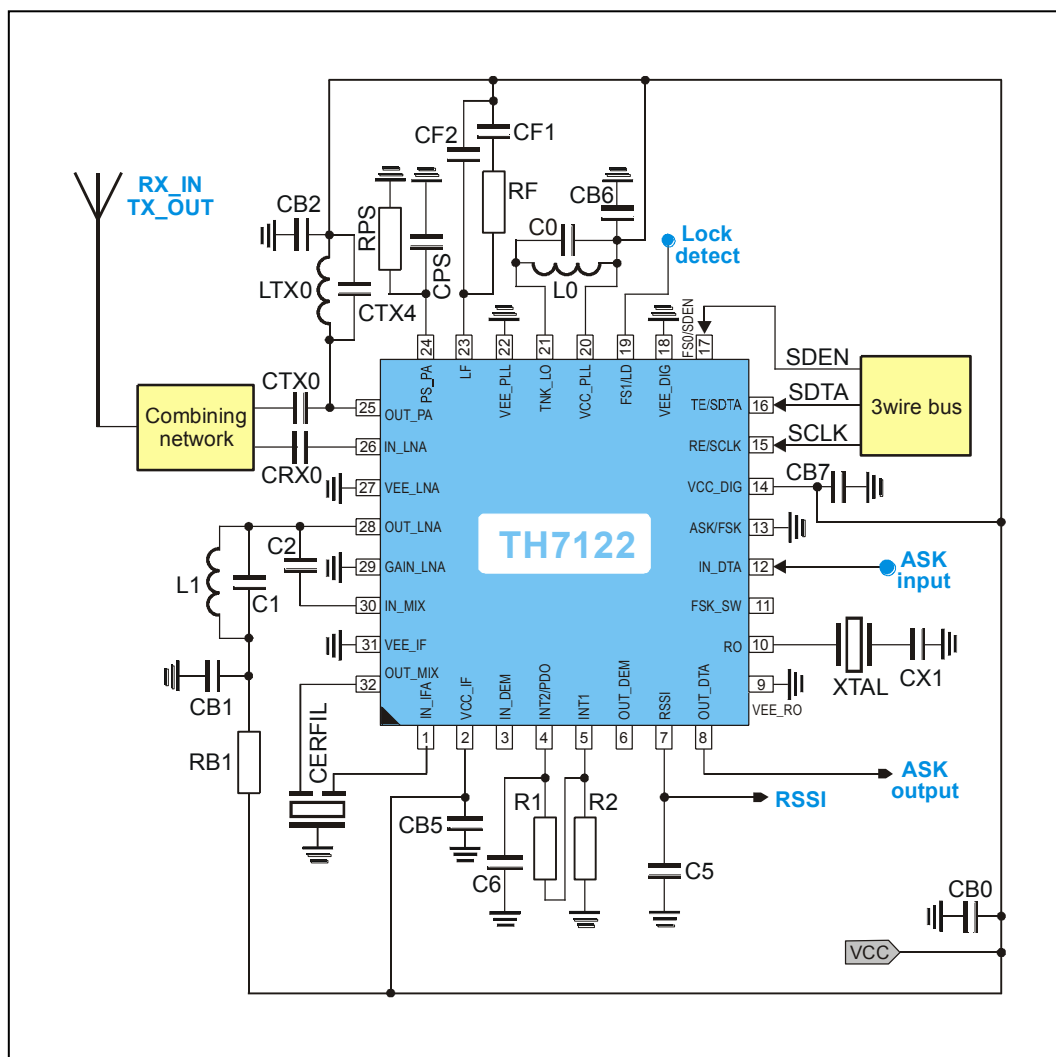

Fig. 17: Test circuit for ASK operation in Programmable User Mode (internal Peak Detector option)
7.7 ASK Test Circuit Component List (Fig. 17)